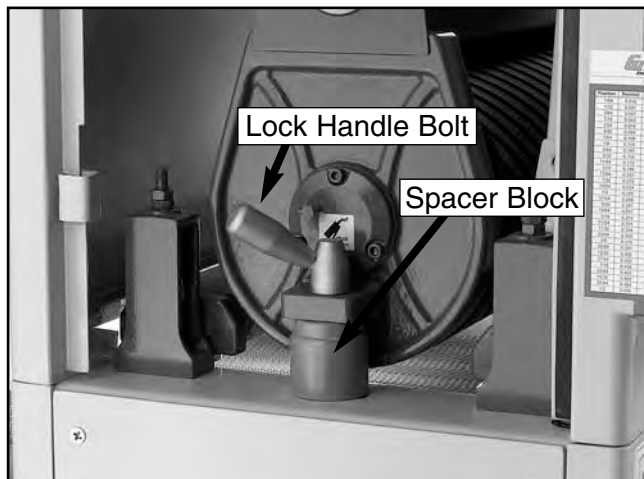

Figure 10. Components used when changing a sanding belt.
3. Remove the lock handle bolt (**Figure 10**) by turning it counter-clockwise $\frac{1}{2}$ a turn and pulling it up and out of the mounting hole.
4. Remove the spacer block (**Figure 10**).